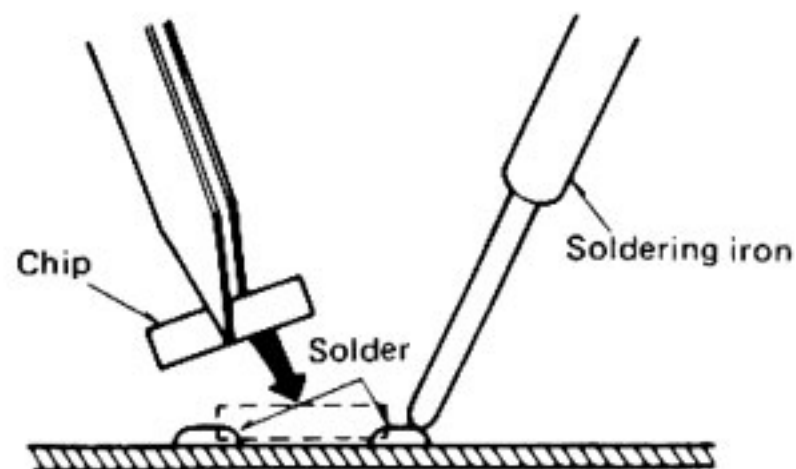

Fig. 19
1. Place solder on the foil where the chip is fitted. Then solder the chip by holding the soldering iron as shown in Fig. 19.